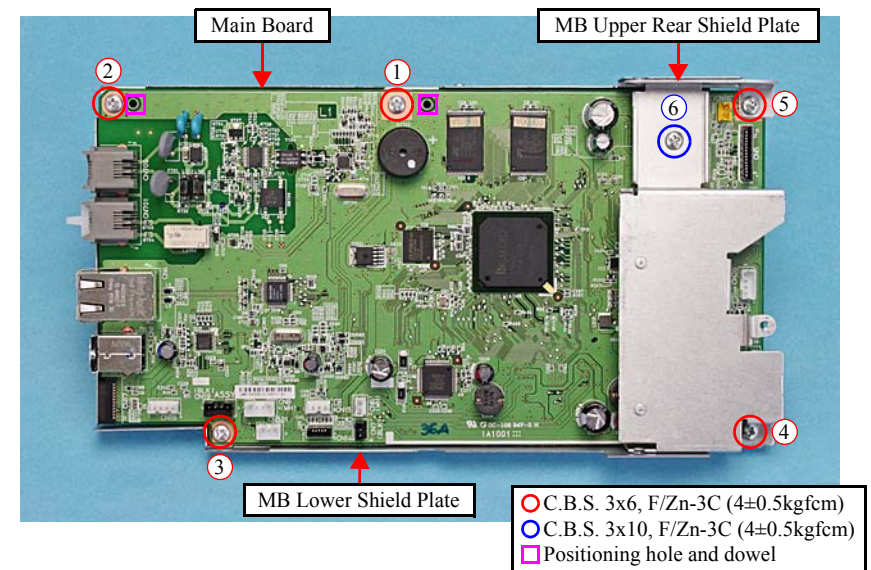

Figure 7-12. Removing the Main Board
- When installing the Main Board to the MB Lower Shield Plate, make sure to match the positioning holes (x4) to the dowels (x2) as shown in Figure 7-12.
- When installing the Main Board, tighten the screws in the order given in Figure 7-12.